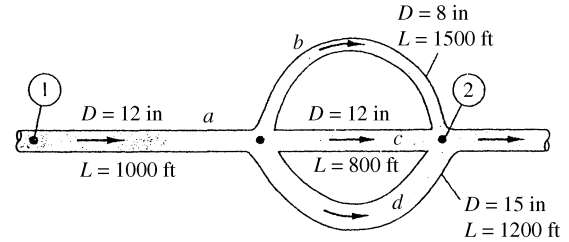

Fig. P6.118
6.118 For the piping system of Fig. P6.118, all pipes are concrete with a roughness of 0.04 inch. Neglecting minor losses, compute the overall pressure drop $p_1 - p_2$ in lbf/in^2 . The flow rate is $20 \text{ ft}^3/\text{s}$ of water at 20°C .